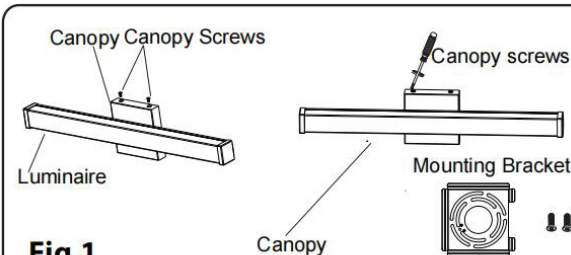
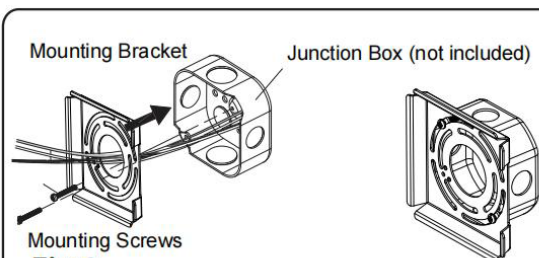

Fig.1
Fig.2
INSTALLATION & ASSEMBLY (Fig.1 & Fig.2)
4. Twist counter clockwise to loosen canopy screws (Fig. 1).
5. Remove mounting bracket from luminaire. Do not remove any other parts (Fig. 1).
6. Adjust mounting bracket so the arms are facing away from junction box. Pull power supply wires from junction box through the center opening of mounting bracket (Fig. 2).
7. Attach mounting bracket to junction box, make sure mounting bracket is flushed and leveled before tightening with mounting screws (Fig. 2).